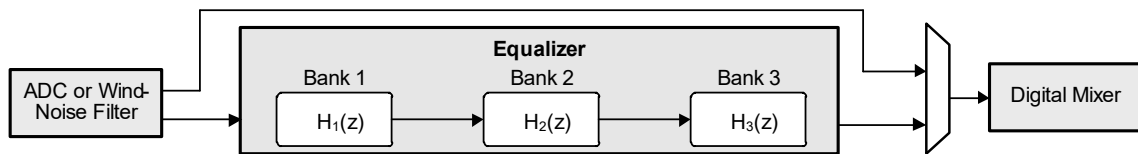
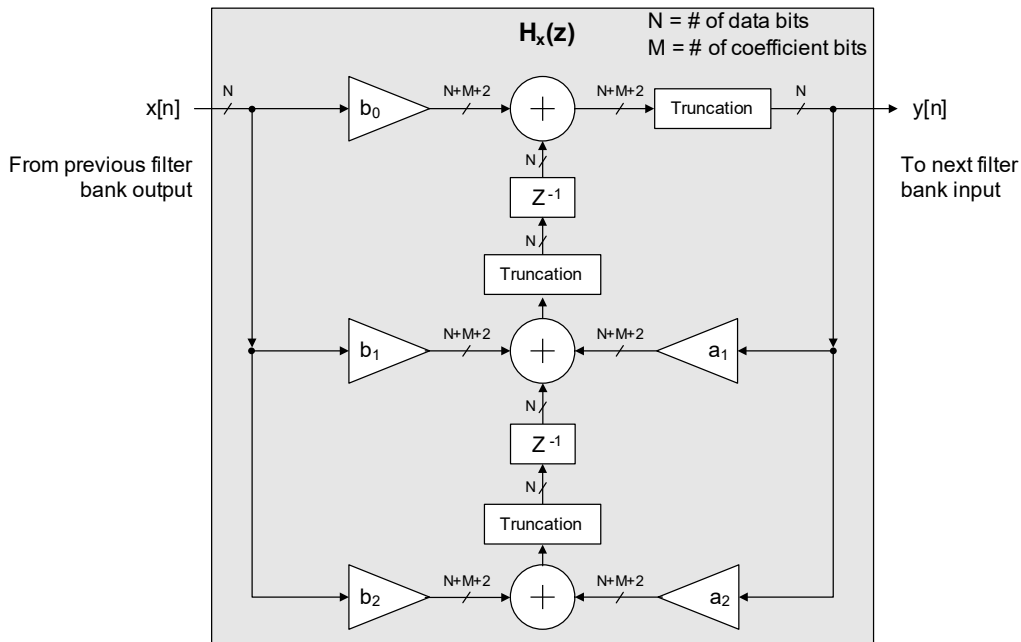

Figure 4-5. Three-Band Equalizer
Figure 4-6. Direct Form II Transposed Filter Bank Architecture
The mono equalizer connects as shown in Fig. 4-5. The equalizer input enters three fully programmable parametric filter banks that can be independently configured in any of the following: low-pass filter (LPF), high-pass filter (HPF), all-pass filter (APF), band-pass filter (BPF), notch filter (NF), peaking EQ (PEQ), low-shelving EQ (LSEQ), or high-shelving EQ (HSEQ).
The three filter banks are cascaded, such that the Filter Bank 1 output is the input to Filter Bank 2, and so on. Therefore, the overall transfer function is the product of the three functions: $H_1(z) \cdot H_2(z) \cdot H_3(z)$, as shown in Fig. 4-5. Each bank is implemented as Direct Form II transposed, as shown in Fig. 4-6.